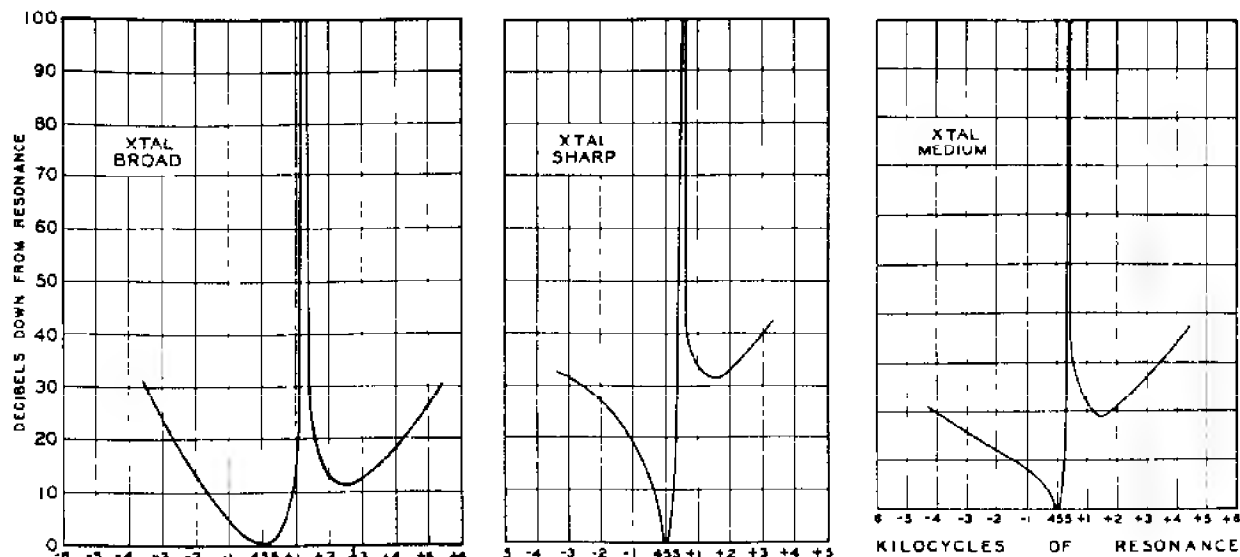

Figure 15. Crystal Curves
- (See Fig. 15 for crystal filter selectivity curves.)
(8) TONE Control. This control selects the tone qualities desired by the operator. The four types of response available are LOW, MED, HI FI, and BASS.